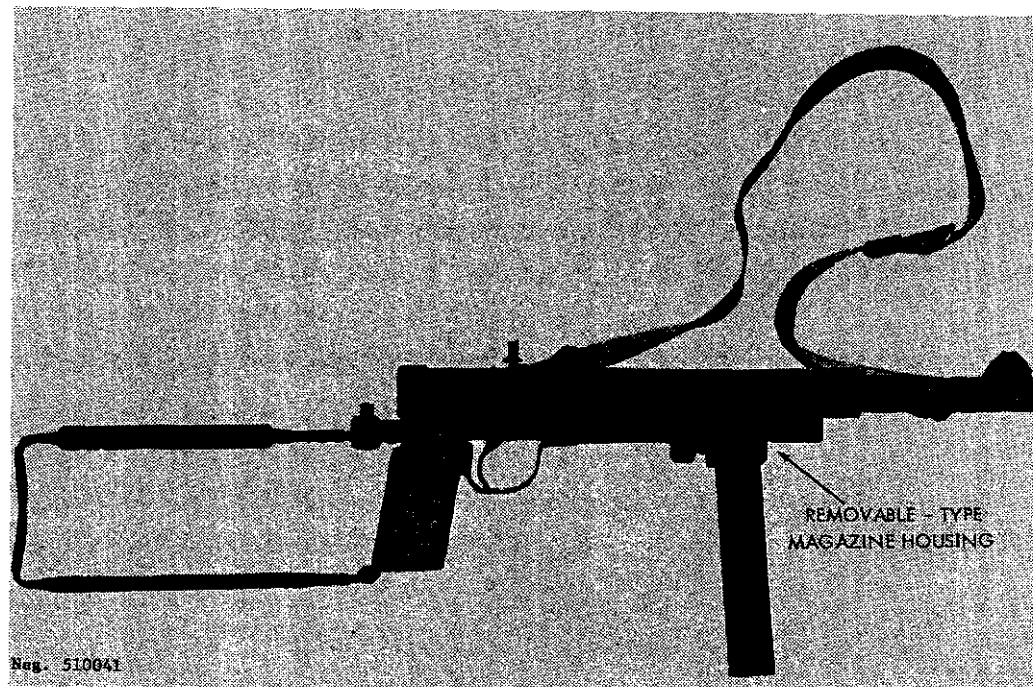

Figure 42. Swedish M45b submachinegun.
a. The Swedish M45b submachinegun (fig 42) is the standard submachinegun of Sweden, where it was developed in 1945. The design is based on the British Mk 2 Sten submachinegun, considerably simplified. There are several variations in the M45 series guns; these variations usually involve the magazine and magazine housing. Original M45 guns used a large multi-row 50-round box magazine and had no magazine housing. The current M45b uses 32-round box magazines. Early models of the M45 have detachable magazine housings to allow the use of the 50-round magazine, while current production guns have permanently attached magazine housings (either welded or riveted).
b. Insert the magazine into the magazine housing (fig 42) until the magazine catch retains the magazine.